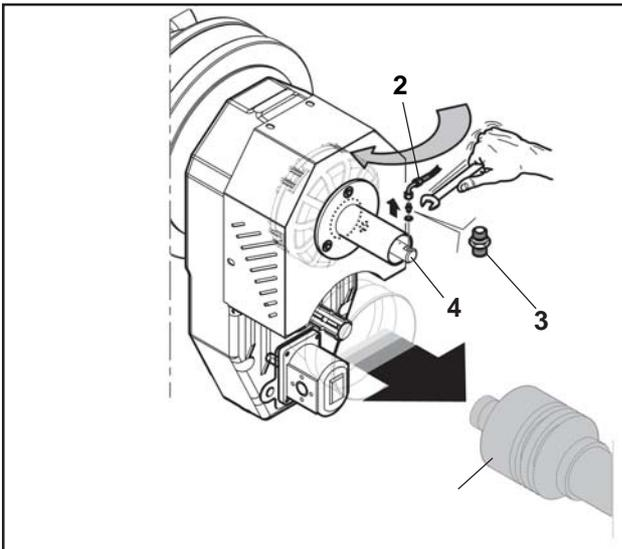

fig.1
- 6) Release the auger, reinstall the **NIPPLE** (3, fig. 1) with the copper washer: be careful not to tighten the **ROTOFLUX** joint **EXCESSIVELY** and eventually damage it.
- 7) Put the fitting back with the pipe (2, fig. 1).
- 8) Put the cardan shaft (1, fig. 1) back on the power takeoff.